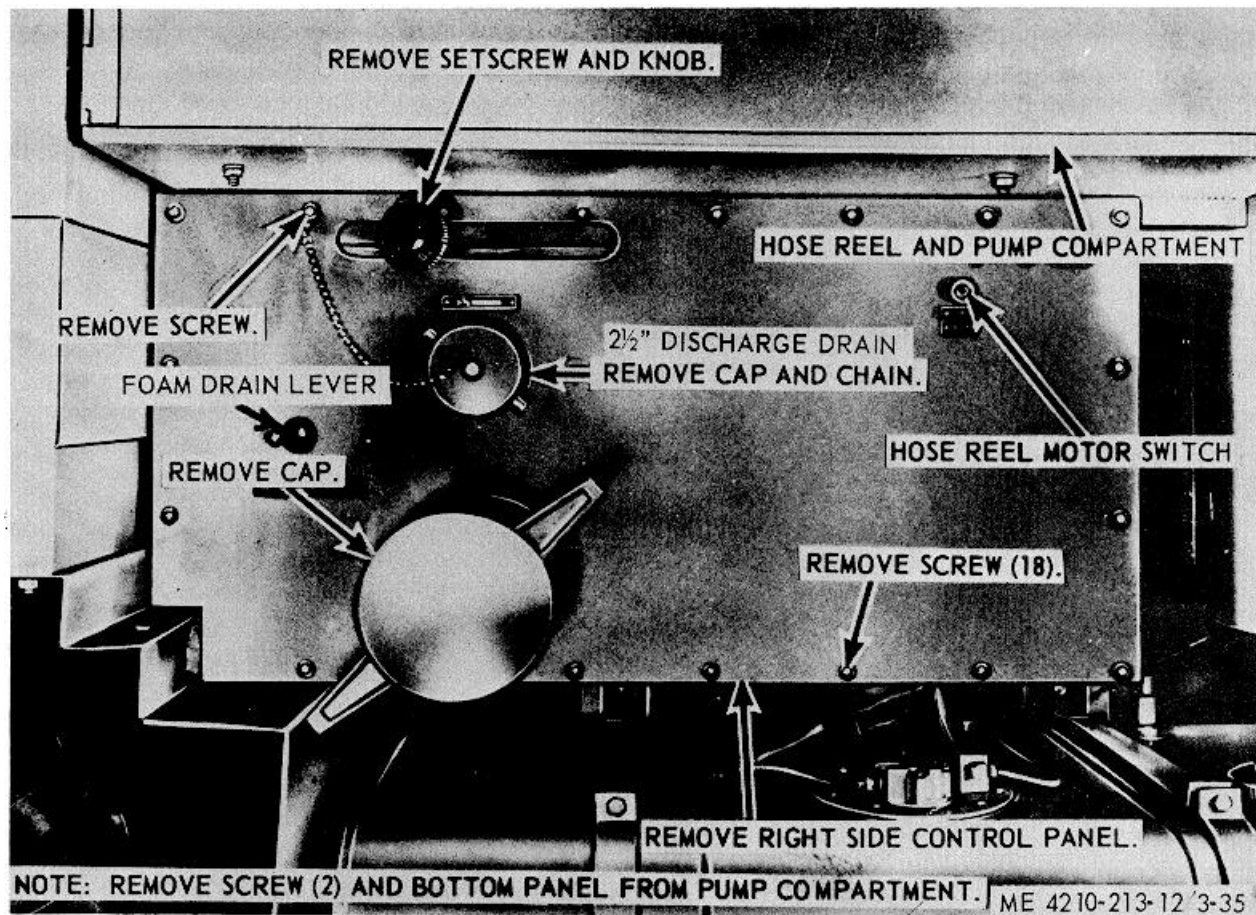

Figure 3-35. Right side control panel, removal and installation.
- (1) Remove the hose reel switch (para 3-67).
- (2) Refer to figure 3-35, and remove the right side control panel from the pump compartment.
- (1) Refer to figure 3-35, and install the right side control panels on the pump compartment.
- (2) Install the hose reel switch (para 65).